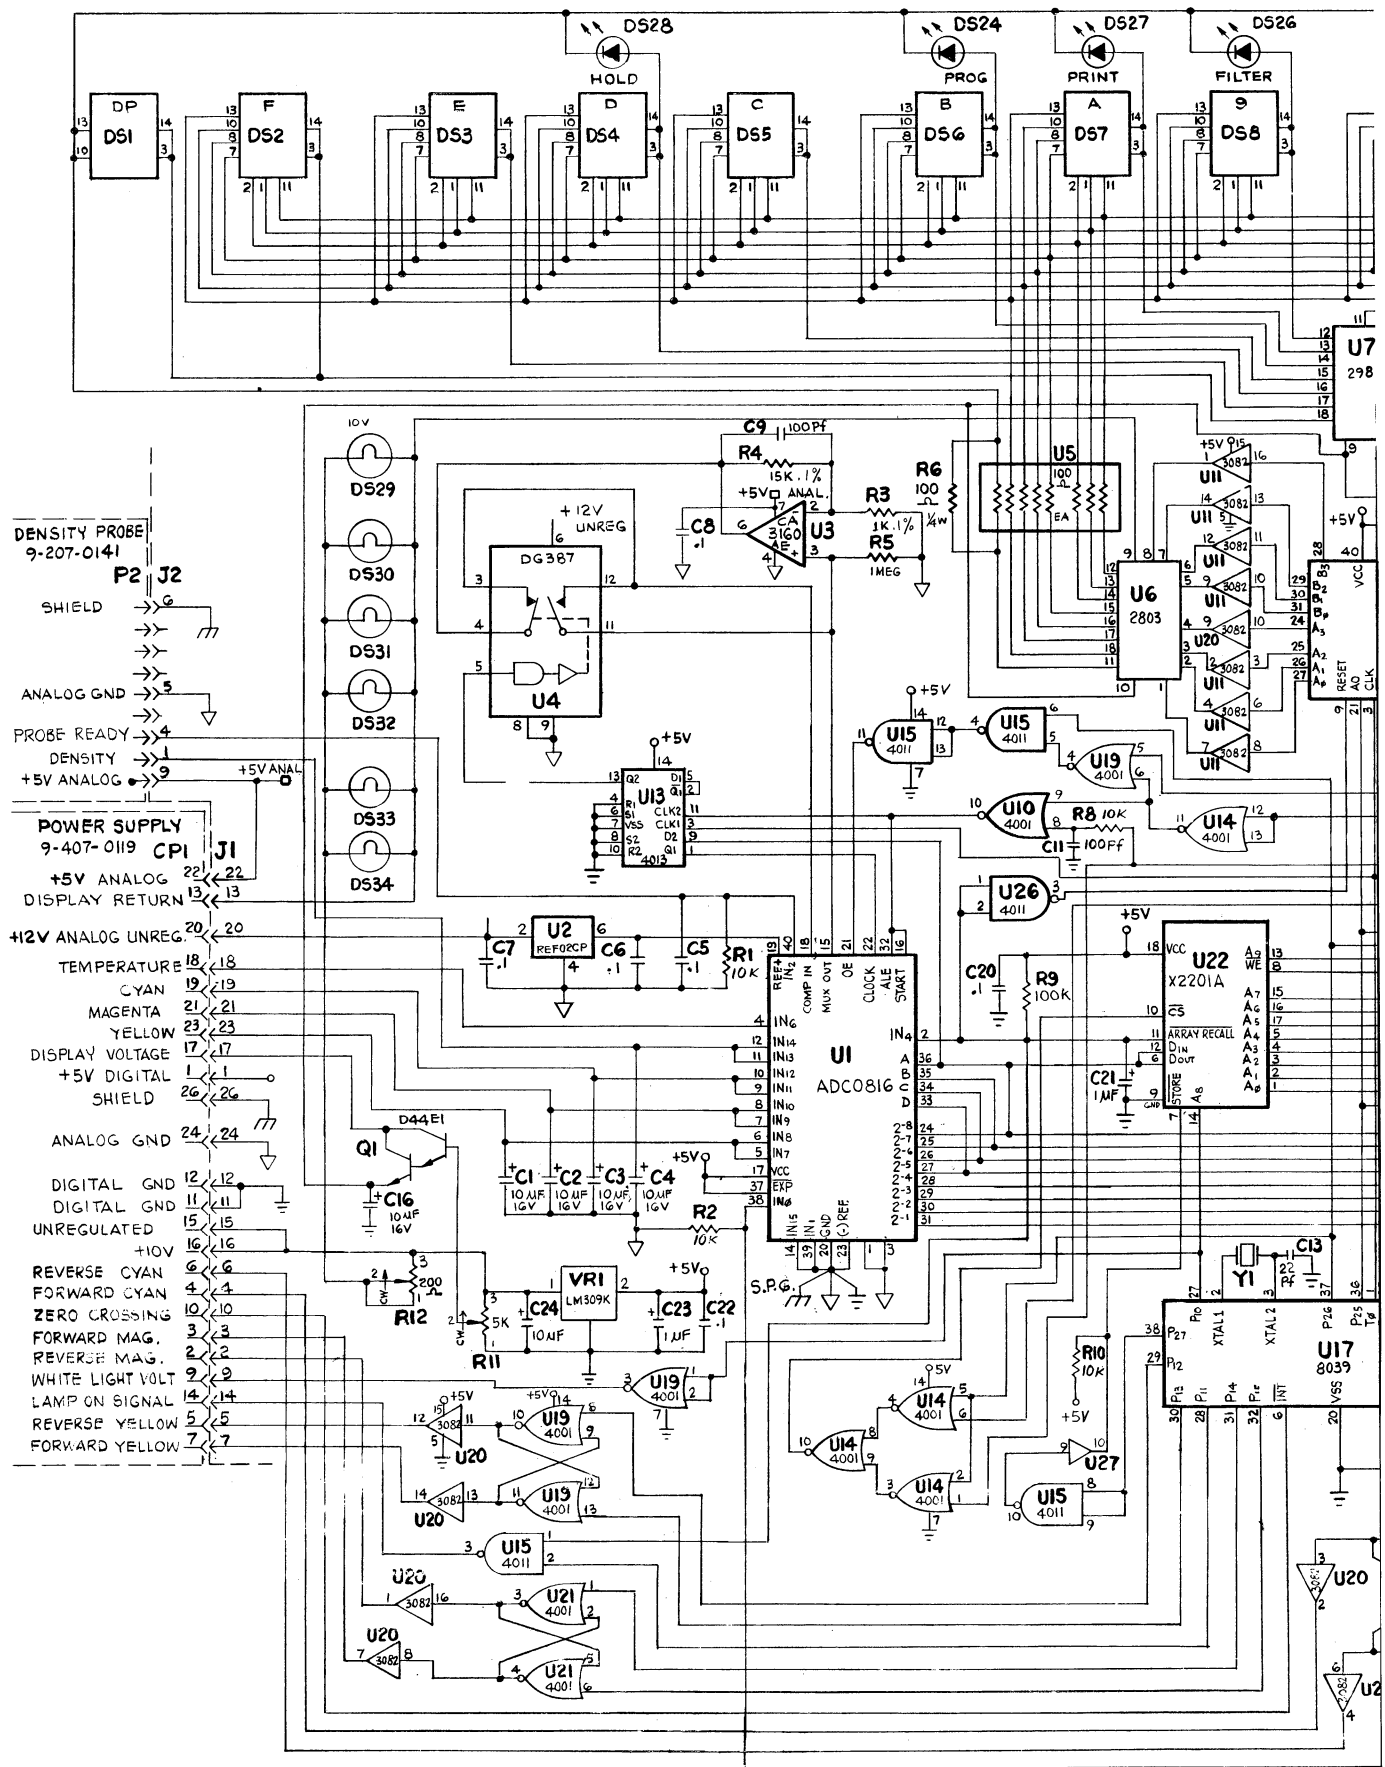

Figure 4-3. CLS Translator/
- Figure 4-3. CLS Translator/Controller, Schematic Diagram